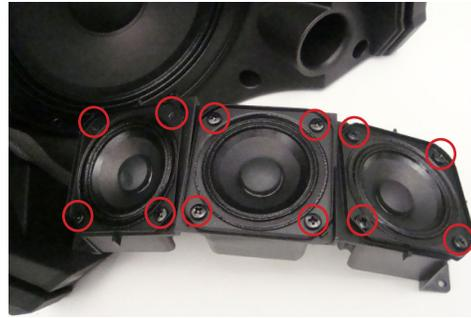

Figure 11
3.3 Lift out the Twiddler™ enclosure as indicated in Figure 11.
3.4 The circles shown in figure 11 indicate the mounting screws used to secure the Twiddlers. All Twiddler's are daisy chained.